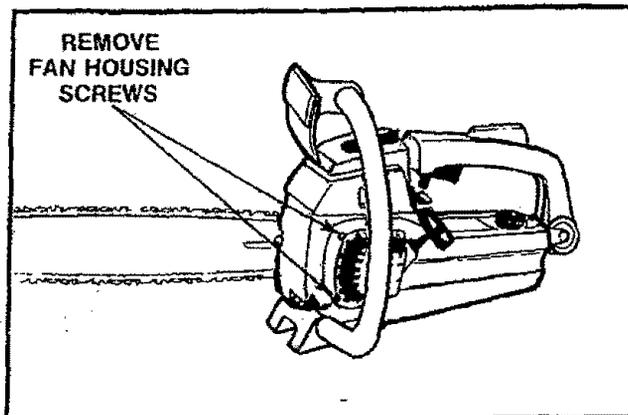

Figure 45
2. Remove the fan housing screw on the bottom of the saw and the two screws on the side of the fan housing. Use the hex wrench provided with the tool. Figure 45.